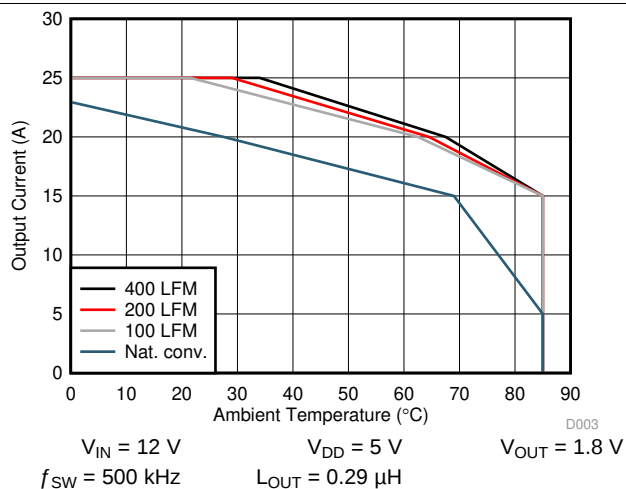
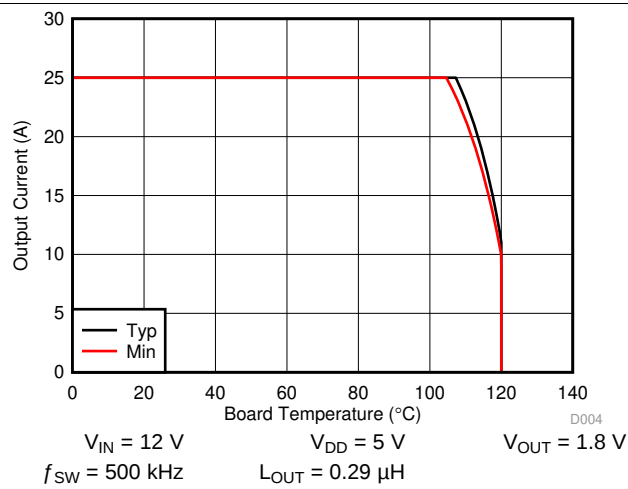

Figure 3. Safe Operating Area – PCB Horizontal Mount ⁽¹⁾
Figure 4. Typical Safe Operating Area ⁽¹⁾
The SOA curves in the CSD97374Q4M data sheet give engineers guidance on the temperature boundaries within an operating system by incorporating the thermal resistance and system power loss. Figure 3 and Figure 4 outline the temperature and airflow conditions required for a given load current. The area under the curve dictates the safe operating area. All the curves are based on measurements made on a PCB design with dimensions of 4 in (W) $\times$ 3.5 in (L) $\times$ 0.062 in (T) and 6 copper layers of 1-oz copper thickness.